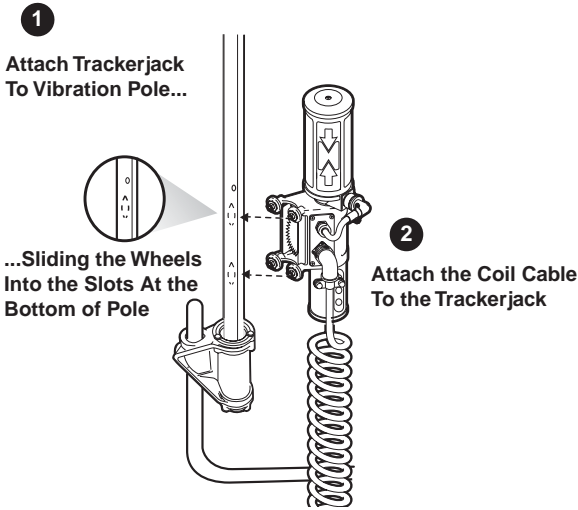

Figure 1-14. Attaching Laser Receiver to Vibration Pole
3. Attach the Trackerjack to the vibration pole, sliding the wheels into the slots at the bottom of the pole. Attach the coil cable to the Trackerjack™ (Figure 1-14 on page 1-14).